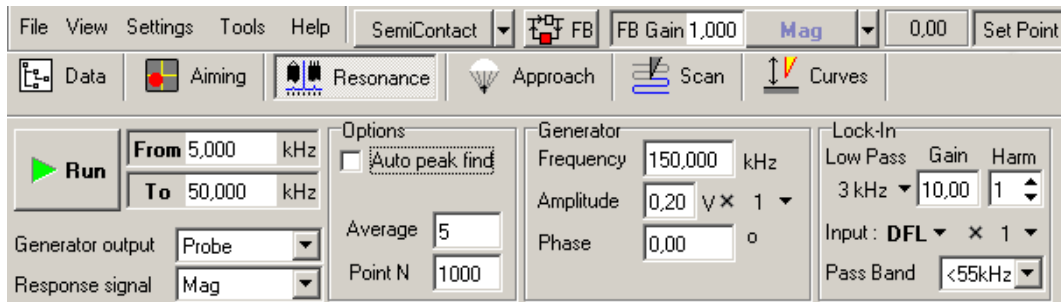

Fig. 1-1
1. Switch to the **Resonance** tab (  Resonance button on the main operations panel) (Fig. 1-1).